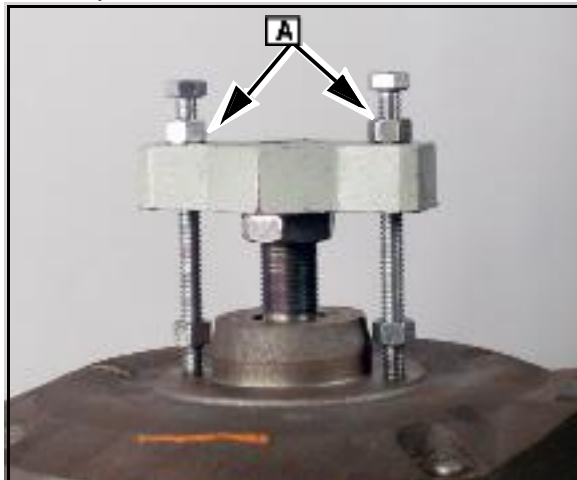

Fig. 47
4. Install tool #19203 as shown ([A] Fig. 47) and tighten the nuts evenly until the flywheel comes free of the crankshaft.